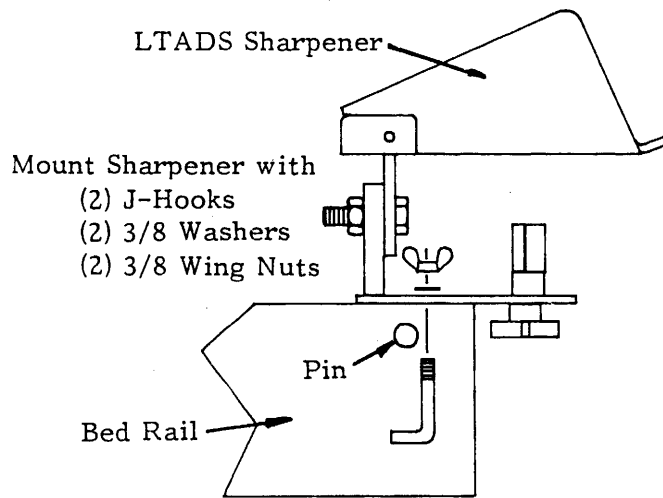

FIGURE 2A
- For use in the field with the LT30 or LT40 Wood-Mizer mill, move the carriage forward to allow a 32" clearance for the blade. The grinder can be mounted at the end of the bed rail as shown in Figure 2A. The two "J" hooks provided can be used to lock the grinder to the bed rail by simply hooking them under the ramp mounting pin and securing with two flat washers and wing nuts.